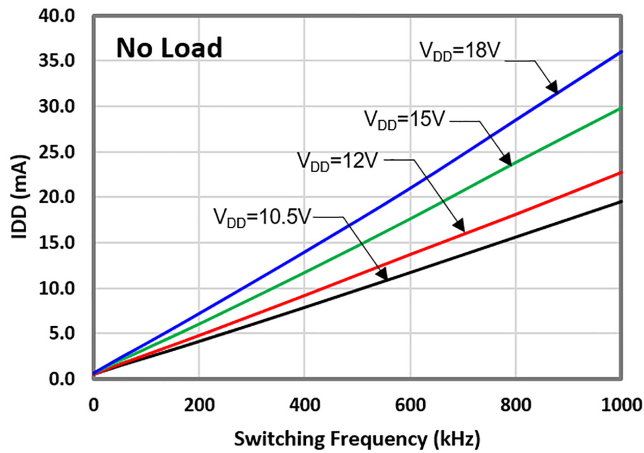
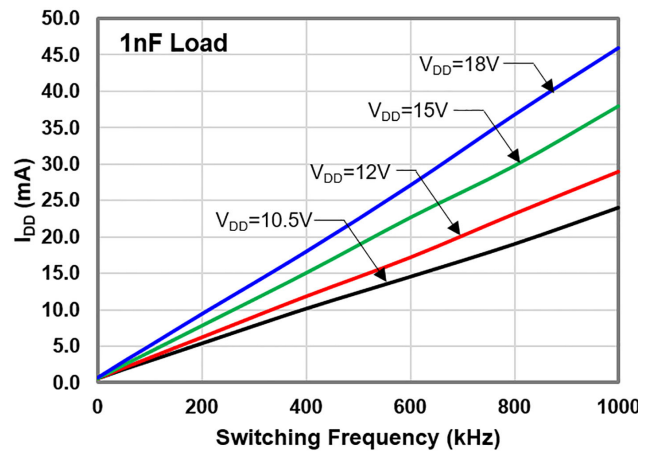

Figure 6. IDD (No Load) vs. Frequency
Figure 7. IDD (1 nF Load) vs. Frequency
**Dynamic Pre-drive / Shoot-through Current:** A power loss resulting from internal current consumption under dynamic operating conditions, including pin pull-up / pull-down resistors, can be obtained using the graphs in Figure 6 and Figure 7 in Typical Performance Characteristics to determine the current  $I_{DYNAMIC}$  drawn from  $V_{DD}$  under actual operating conditions: